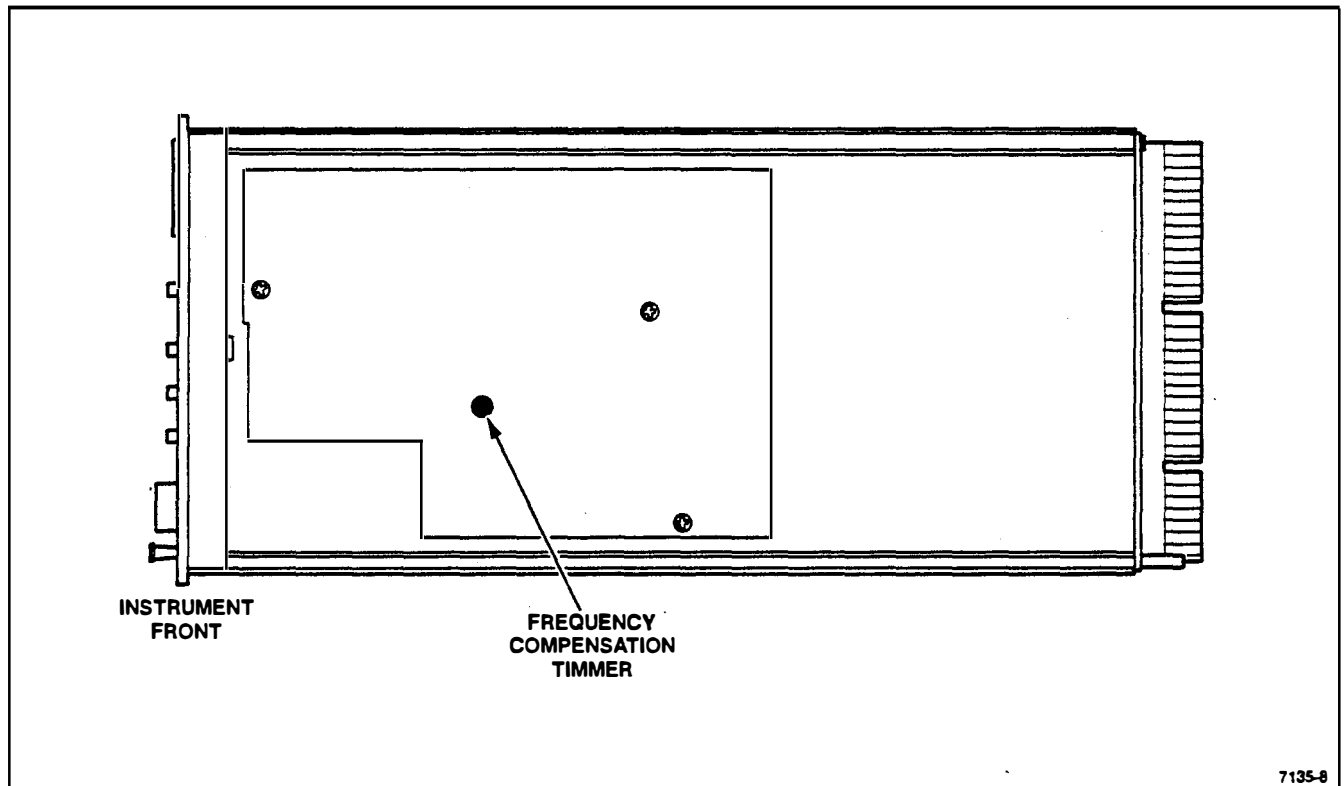

Fig. 2-2. Frequency compensation trimmer.
*Before adjusting the frequency compensation, remove the right side cover of the DM504A. The location of the trimmer for frequency compensation is indicated in Fig. 2-2.*